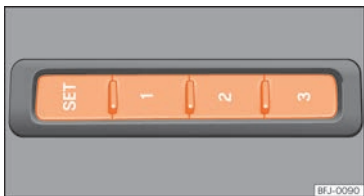

Fig. 122 On the outer side of the driver's seat: memory buttons.
» **Fig. 122.**
- Press and hold the **SET** button »» Fig. 122.